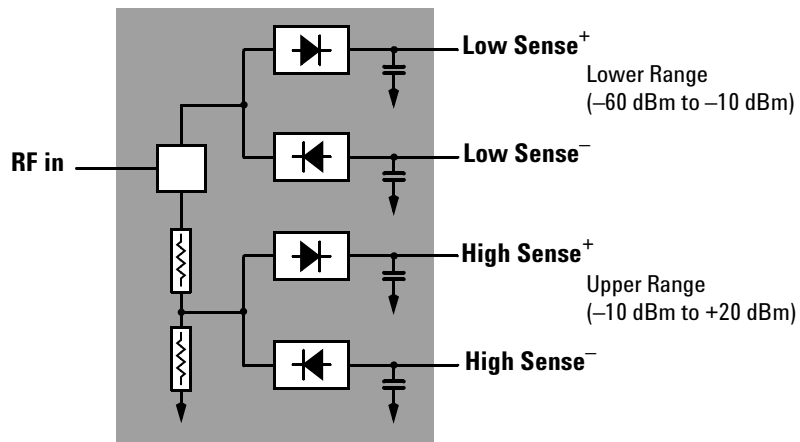

Figure 1-2 Simplified Block Diagram of Diode Pair/Attenuator/Diode Pair
- Figure 1-2 Simplified Block Diagram of Diode Pair/Attenuator/Diode Pair 4
The Agilent E-Series E9300 power sensors are true average, wide dynamic range RF microwave power sensors. They are based on a dual sensor diode pair/attenuator/diode pair proposed by Szente et. al. in 1990*. Figure 1-2 shows a block diagram of this technique.